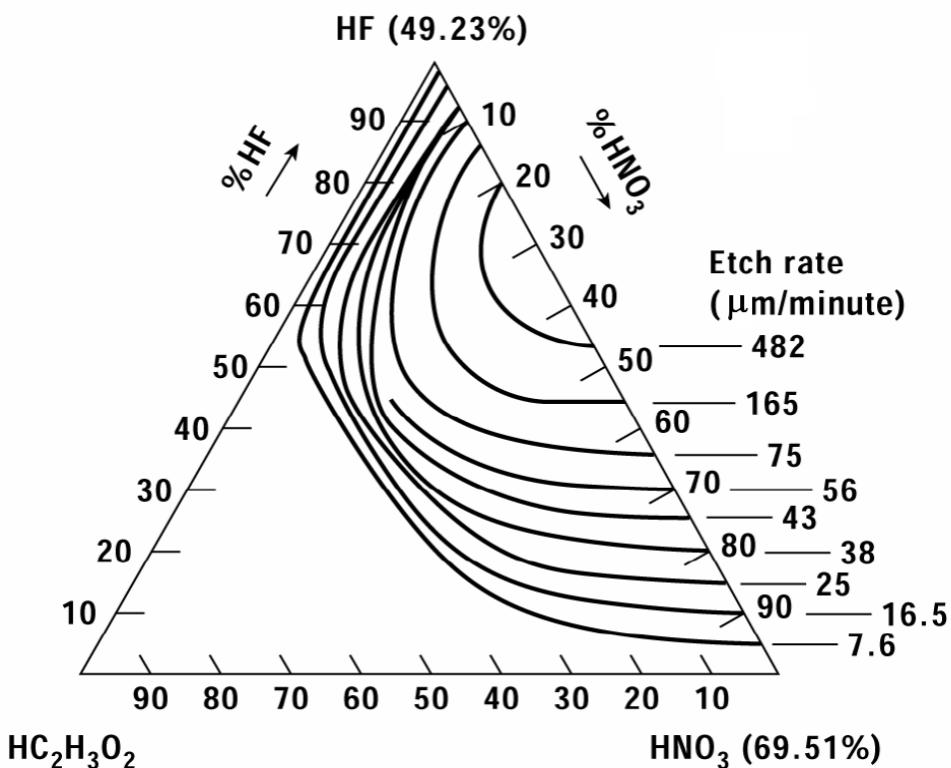

Figure 1
1. [a] A hydrofluoric-nitric acid (HNA) etchant solution consisting of two parts of 69.51% HNO_3 , five parts of 49.23% HF, and three parts of $HC_2H_3O_2$ is used to etch silicon. If the solution is held at room temperature, what would be the expected etching rate? Refer to Figure 1 of the etch rate for silicon in HNA solution.